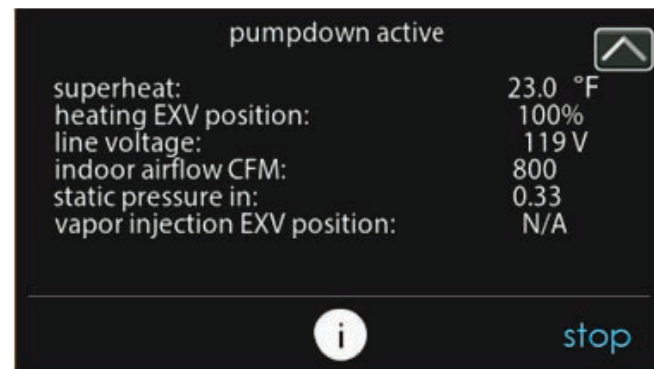

Fig. 24 – Pumpdown Active Screen
4. Select Start on Ion™ Black System Control to begin the pumpdown process. Unit will begin running in cooling mode after a brief delay and a status screen will be displayed. See Fig. 24.